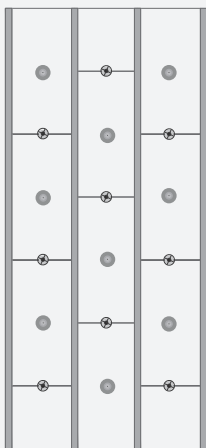

Figure 4
- Stagger horizontal joints on cladding systems. (Figure 4)
- Use metal fixings in the middle of the slabs. Polypropylene fixings can be used on the junctions. (Figure 4)